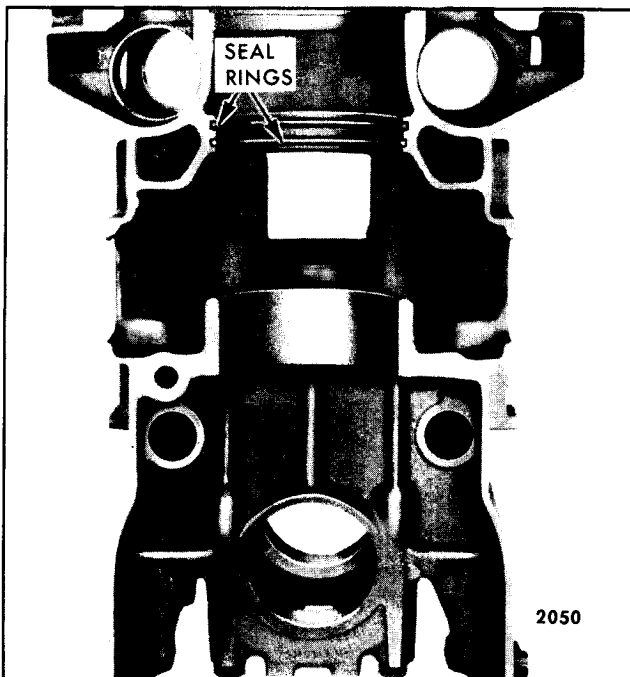

Fig. 12 - Location of Block Bore Seal Ring Groove
a. Make sure the seal ring grooves (Fig. 12) are thoroughly clean. Then inspect the grooves and lands for evidence of pitting and erosion. If the grooves are eroded to the extent that sealing is affected, then the block must be replaced.